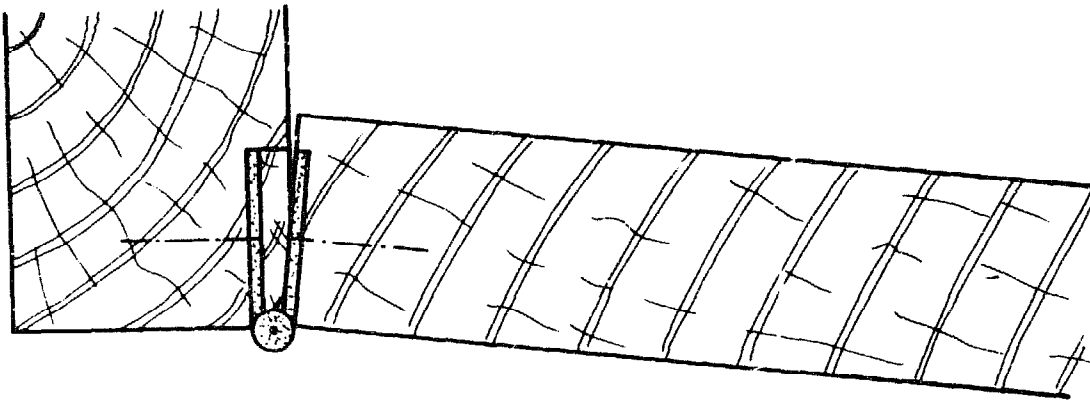

Fig. 3
- e. Set the marking gauge to the thickness of one hinge leaf, and mark this on the face of the door (Fig. 3).
- One possible reason that a door won't close well is that it is hinge bound. This means that the leaves of the hinges are set too deep. To remedy this, you must remove the hinge and place a thin piece of wood between the leaf and the post (Fig. 3).